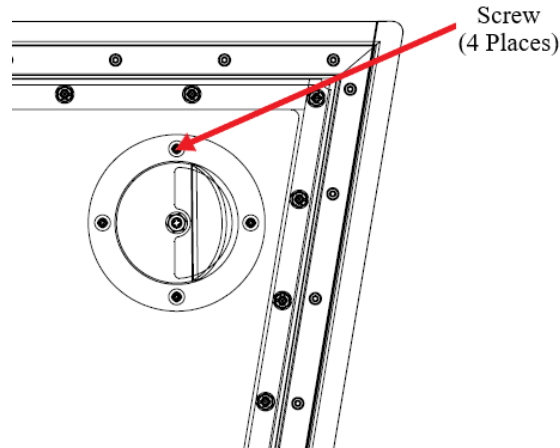

Figure 4: Vista Vent
5. Remove four screws to uninstall Vista Vent. Keep Vista Vent hardware as shown in Figure 4.